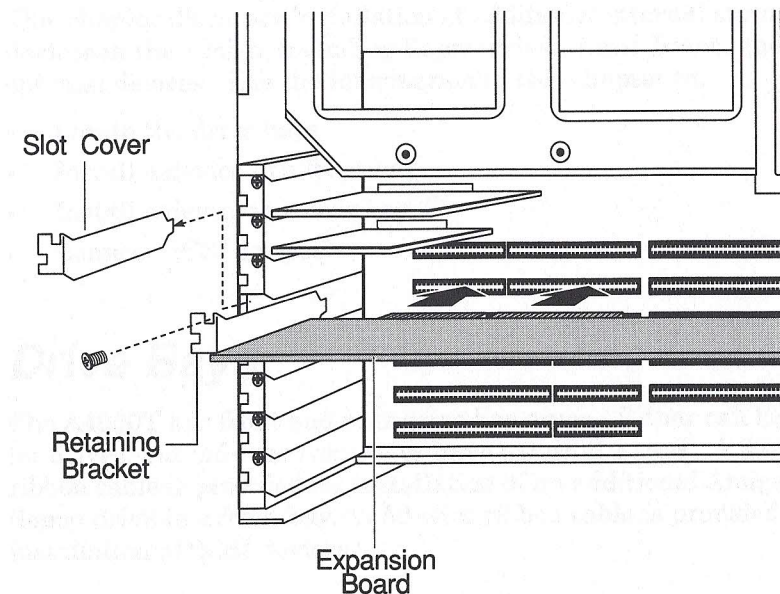

Figure 5-2. Removing the Cover Plate and Installing the Expansion Board
5. Slide the expansion board into the slot as illustrated in Figure 5-2. Make sure that the edge of the board is in the proper grooved guide and that the edge connectors are aligned correctly. Press firmly, but do not use excessive force, to seat the edge connectors fully into the slot.